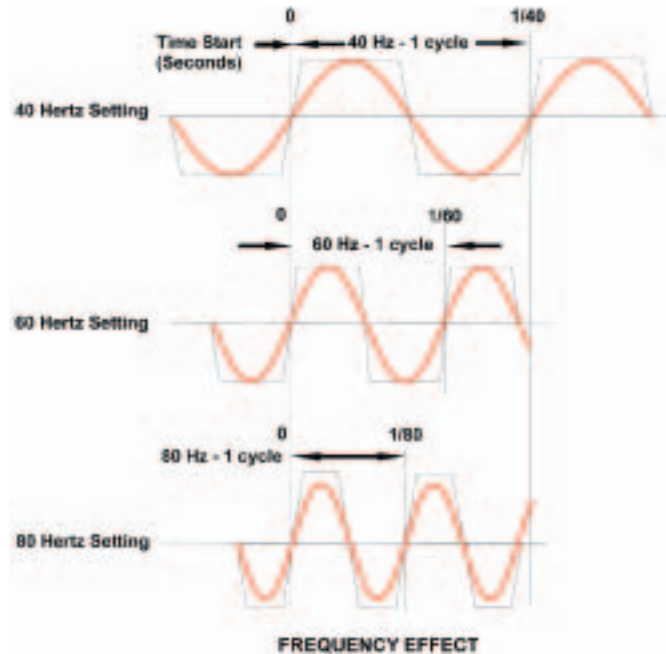

Figure 8
While frequency is historically accepted to be fifty or sixty hertz, the Power Wave AC/DC 1000™ can function at any chosen frequency between zero (DC) and 100 hertz. Frequency can play an important role in a specific welding procedure. Relative to a “normal” sixty hertz, deposition rates can be slightly increased or decreased as can penetration. Frequency alters the total time for the arc to be at peak values. As the frequency decreases, more time is available at peak values and – more importantly – less time is spent in the transition region. The converse occurs as frequency is increased. Figure 8 (frequency effect) illustrates this by showing what occurs during one complete cycle.